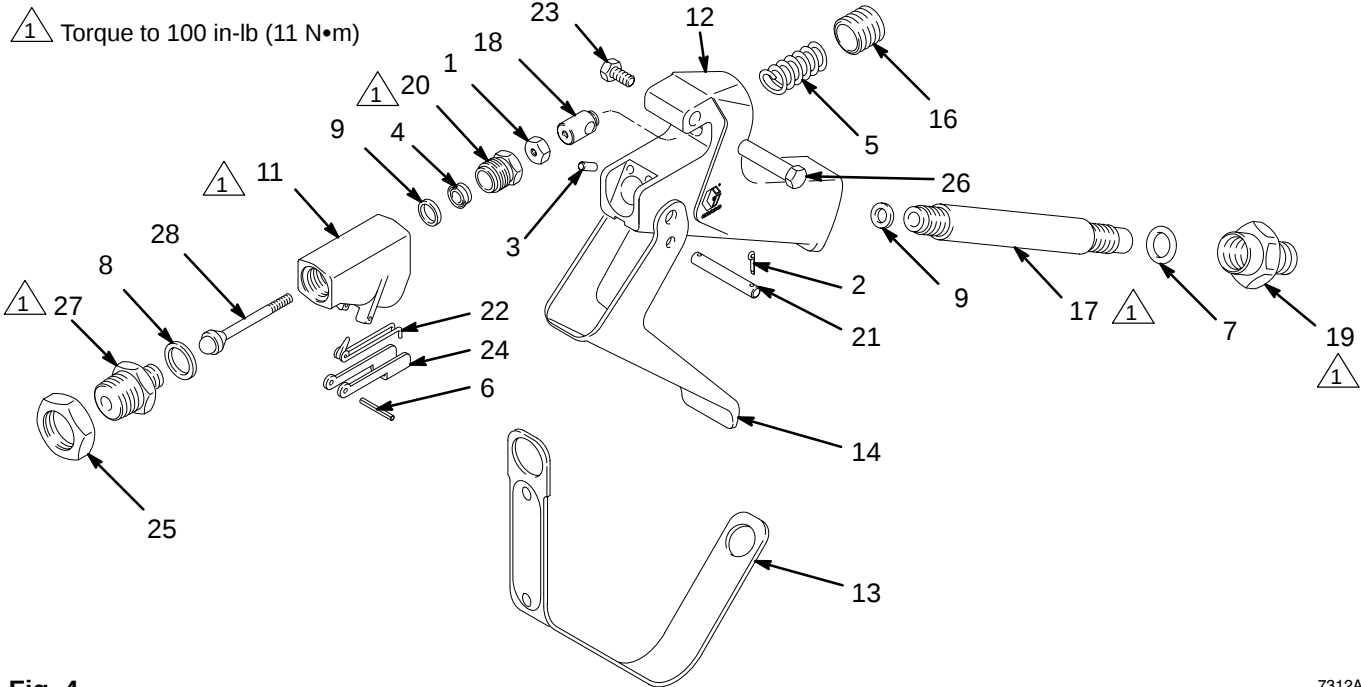

Fig. 4
If fluid continues to flow after the trigger is released, the gun valve may be obstructed or need adjustment. The valve stem (28) or valve seat (27) may be worn or damaged. See Fig. 4.
3. Squeeze the gun trigger. Remove the valve seat (27). Let the spring (5) push the valve stem (28) forward and then loosen the nut (1). See Fig. 4.
4. Remove the actuating pin (21). Turn the adjusting nut (18) out a couple of turns. See Fig. 4.